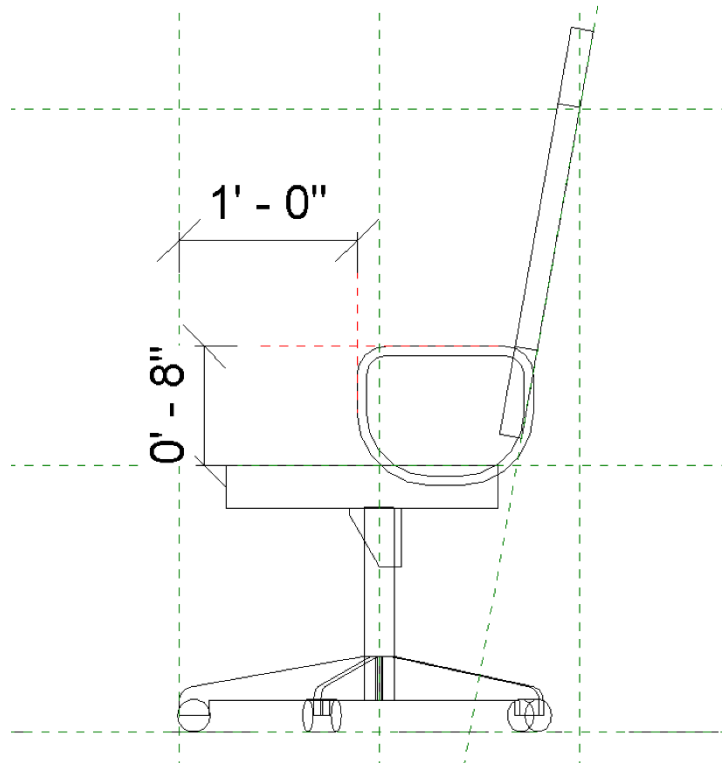

Figure 2. Office chair Left elevation
- Ensure that the new arms are constrained to the red reference planes shown in figure 2.